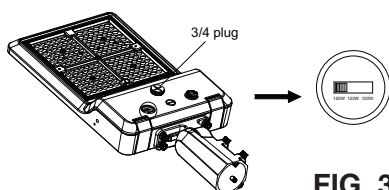

FIG. 3
1. Remove the $\frac{3}{4}$ NPT plug and adjust the switch to the desired power setting (see **Fig. 3**).